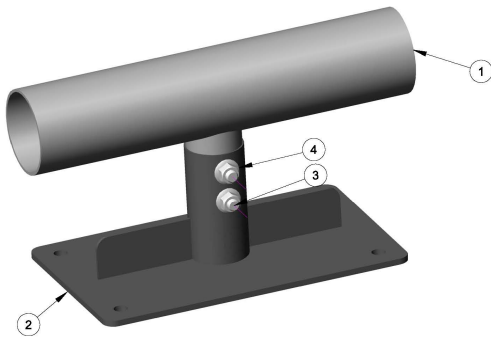

Figure 1. Hoist carrier mount installation.
1. Using detail from production drawings, hang welded drop pipe (item 1) from trusses. Make sure drop pipe is plum.
2. Begin installing carrier mount brackets (item 2) on the welded drop pipe (item 1) using the provided 1/2"-13 x 3" hex head bolts (item 3) and 1/2"-13 whizlock nuts (item 4). Be sure to note on the production drawing which drop has the carrier mount for the hoist, as this is different from the others. Please refer to figures 1 and 2 for illustrations of each.